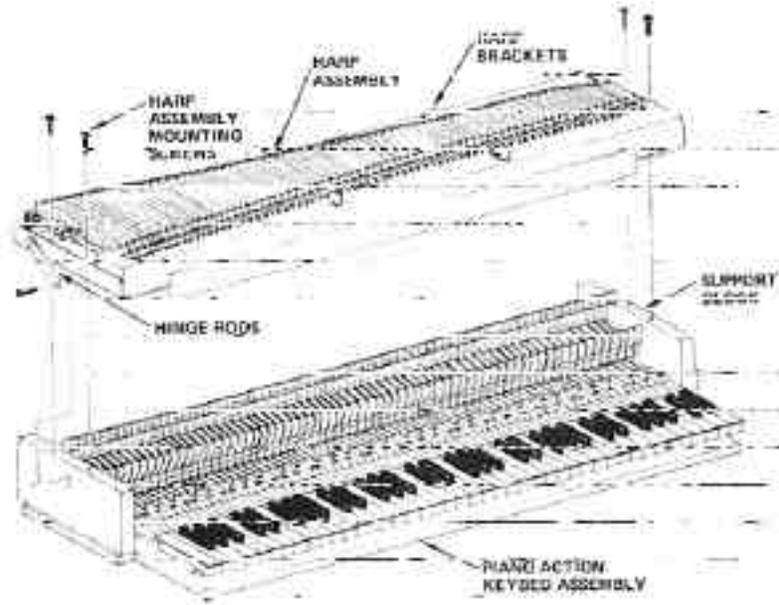

Figure 10-2. RHODES Early Design Harp/Action Assembly - Exploded View
1. Remove the two Side Support Blocks (Figure 10-2).